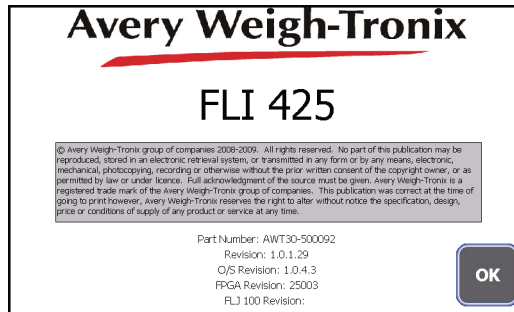

Figure 8.10 About FLI 425 screen
2. When you choose **About FLI 425**, a display similar to the one shown in Figure 8.10 appears.